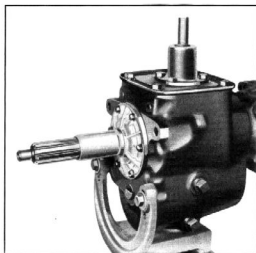

Fig. 3—Transmission in Holding Fixture
1. Mount the transmission in the transmission holding fixture, J-934, as shown in Figure 3.